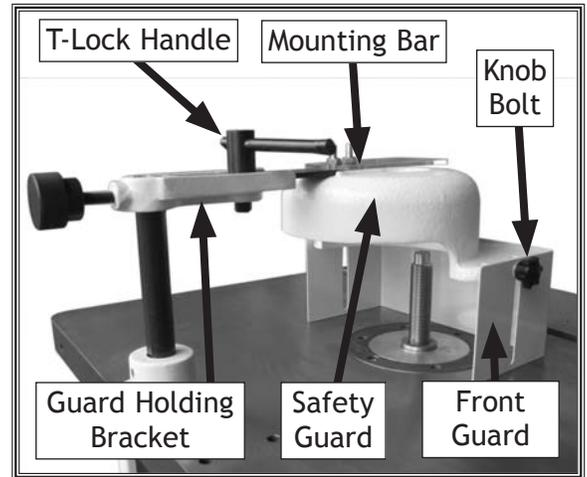

Figure 46. Safety guard installed independent of the fence assembly.
5. Slide the guard holding bracket onto the shaft, then tighten the knob to hold it in place, as shown in **Figure 46**.
7. Secure the mounting bar and guard to the holding bracket with the T-lock handle, as shown in **Figure 46**.